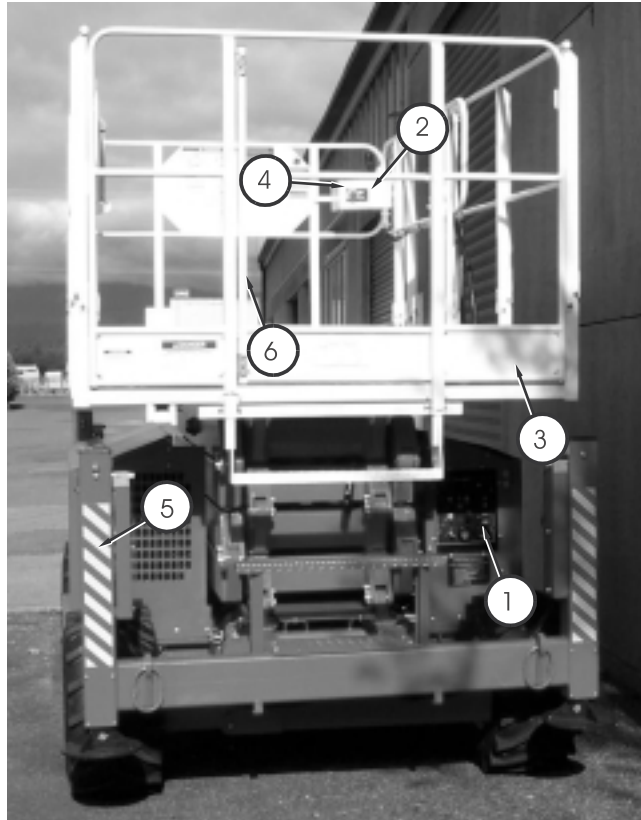

Figure 10.1 - Correct Stowed Position
1. Fully lower the platform **3** (see Figure 10.1).
2. **For models with outriggers:** Use the outrigger controls **4** to completely raise all four of the outriggers **5** (see Figure 10.1).
3. Close the platform entry gate **6** (see Figure 10.1) and close all the doors on the machine.